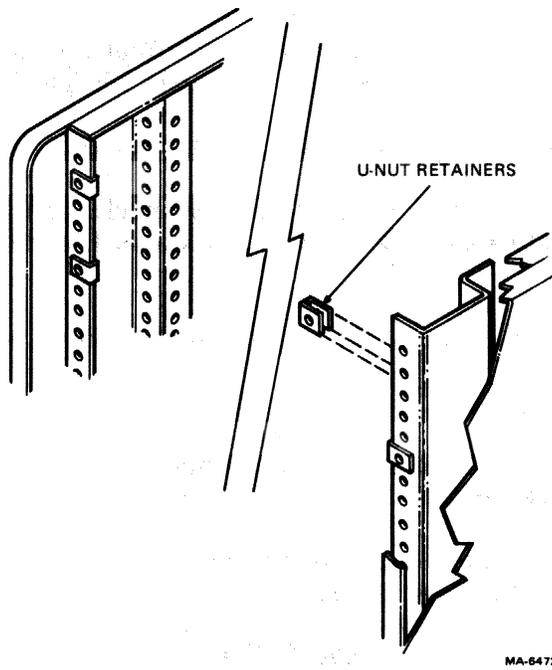
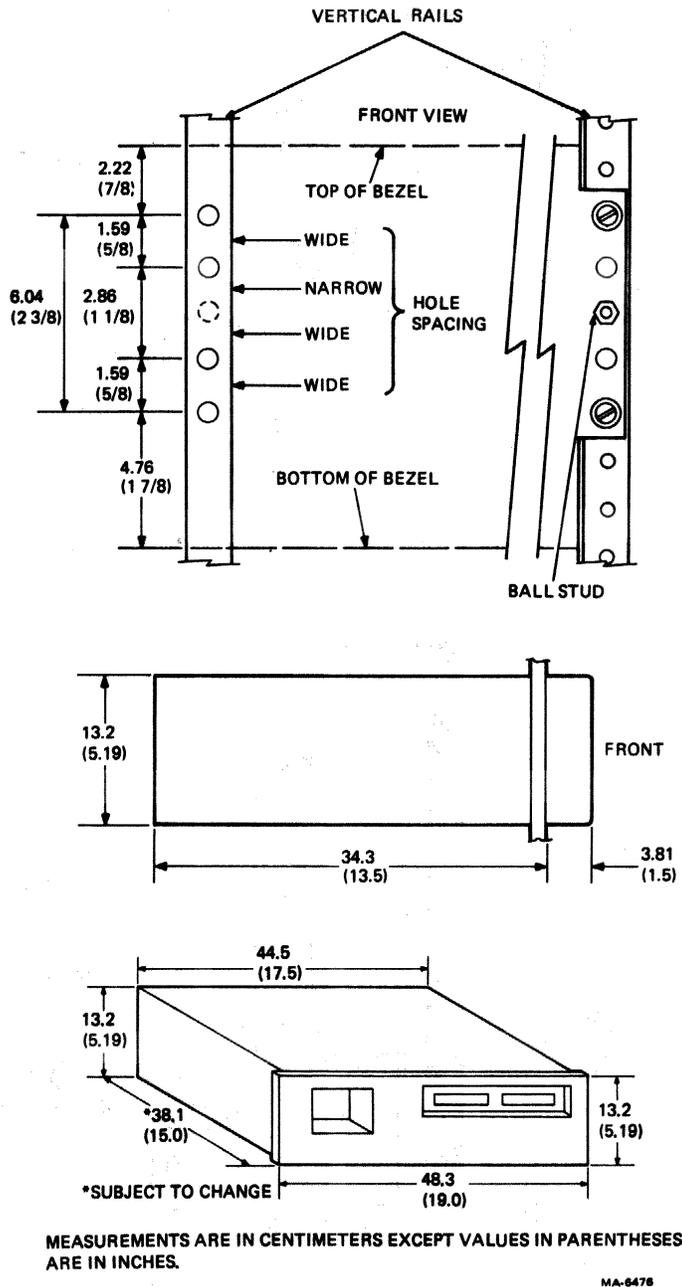

Figure 4-4 Front Vertical Rail U-Nut Retainers
Figure 4-5 Rackmounting the TU58-DA
4. Attach four U-Nut retainers (two per side) to the front vertical rails (Figure 4-4). Refer to Figure 4-5 and position U-Nut retainers at the desired height for the TU58-DA.